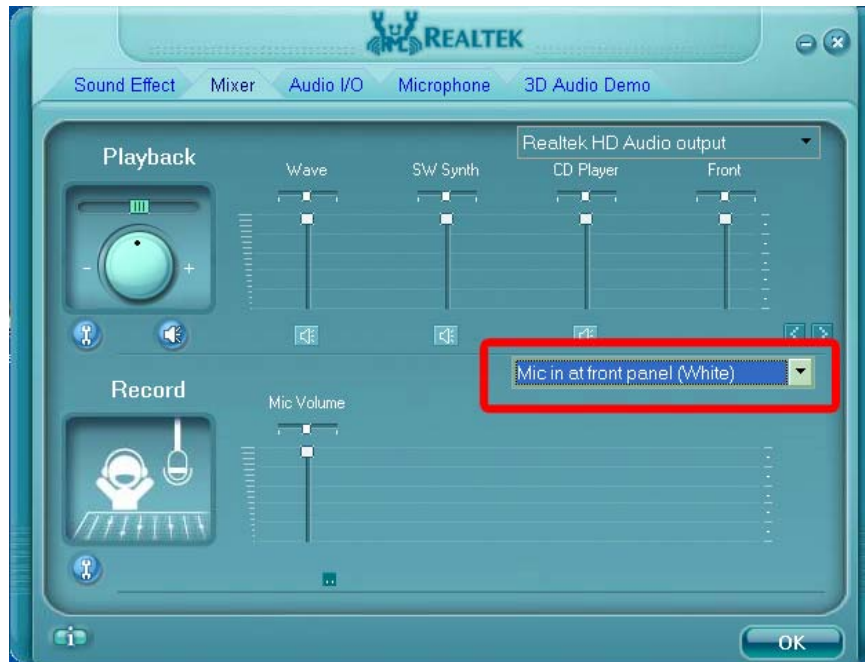

Figure B-5: Enabling the Digital Microphone Function
Step 7: From the dropdown list box in the **Record** section, select **Mic in at front panel (White)** (Figure B-5).